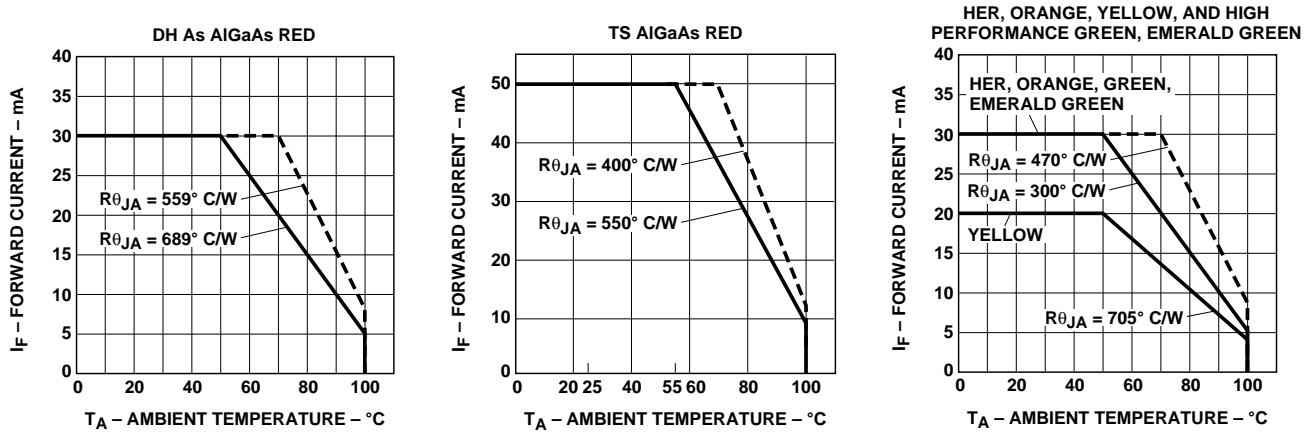

Figure 5. Maximum Forward dc Current vs. Ambient Temperature. Derating Based on $T_{jMAX} = 110^\circ\text{C}$
1. See Figure 5 for maximum current derating vs. ambient temperature.